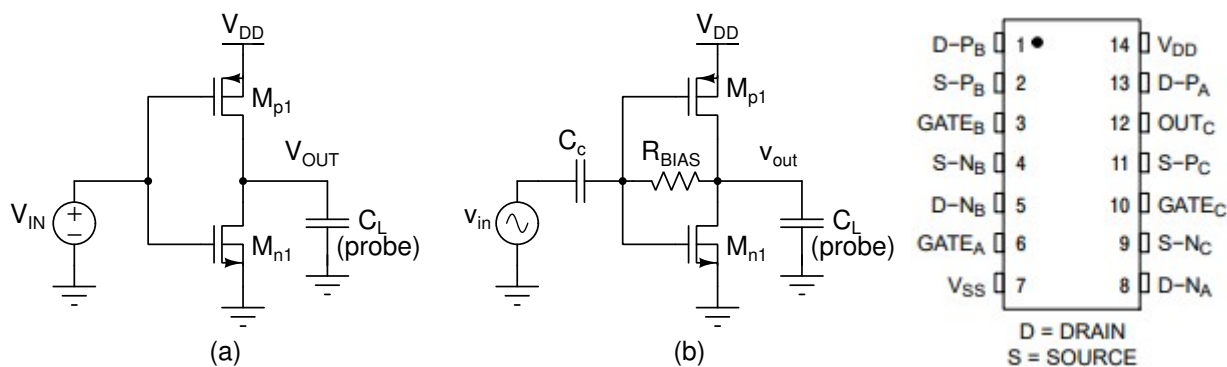

Figure 1: (a) VTC (b) voltage amplifier
- (a) Consider the circuits shown in Fig. 1, where coupling capacitor $C_C = 10 \mu\text{F}$, $R_{BIAS} \approx 1 \text{ M}\Omega$ (very high value) and $V_{DD} = 5 \text{ V}$. Use Fig. 1(a) to plot the voltage transfer characteristics (V_{OUT} vs V_{IN}) and identify the valid input output region for the circuit to act as an amplifier. (Hint: use acquire function in DSO by giving a sinusoidal signal of amplitude 5 V at input; slope $|\frac{dv_{out}}{dv_{in}}| > 1$)
- (b) Connect the circuit as shown in Fig. 1(b). Find DC values at drain and gate terminals. Apply a sinusoidal signal (v_{in}) with amplitude 100 mV v_{p-p} and frequency 1 KHz. Measure the gain by plotting v_{in} and v_{out} on DSO. Tabulate the value of gain for different input amplitudes (V_{gs}) - 200 mV, 300 mV, 400 mV, 500 mV and 600 mV V_{p-p} . Do you observe any clipping of the output signal as the input is increased? State and explain the reason for the same.